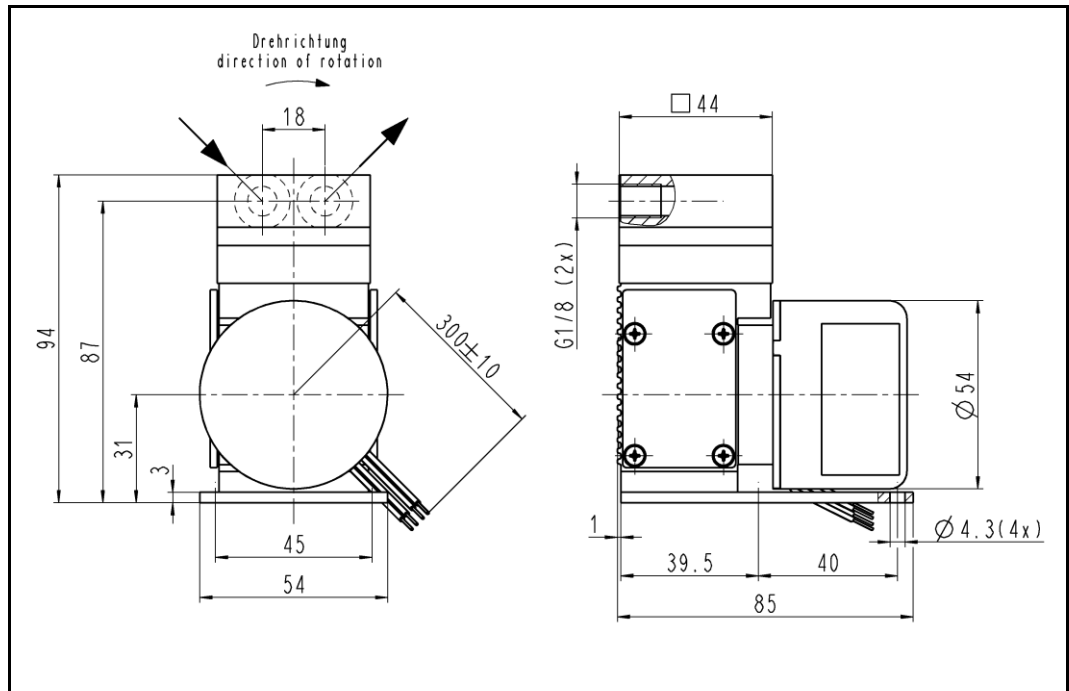
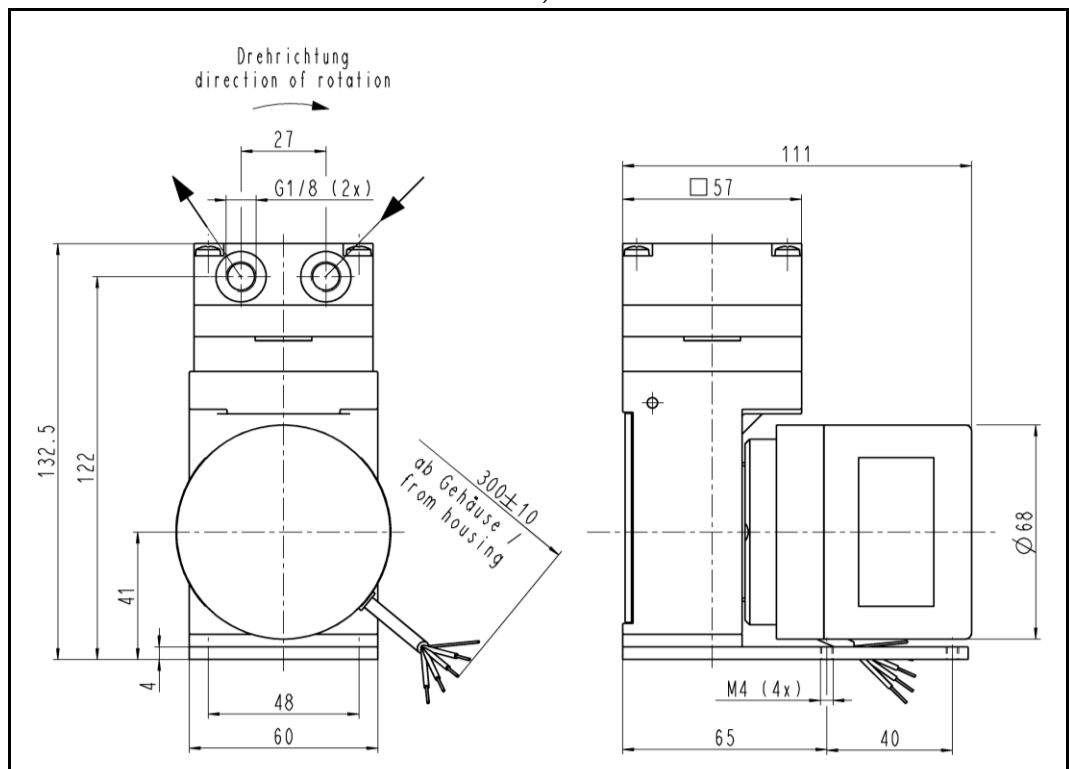
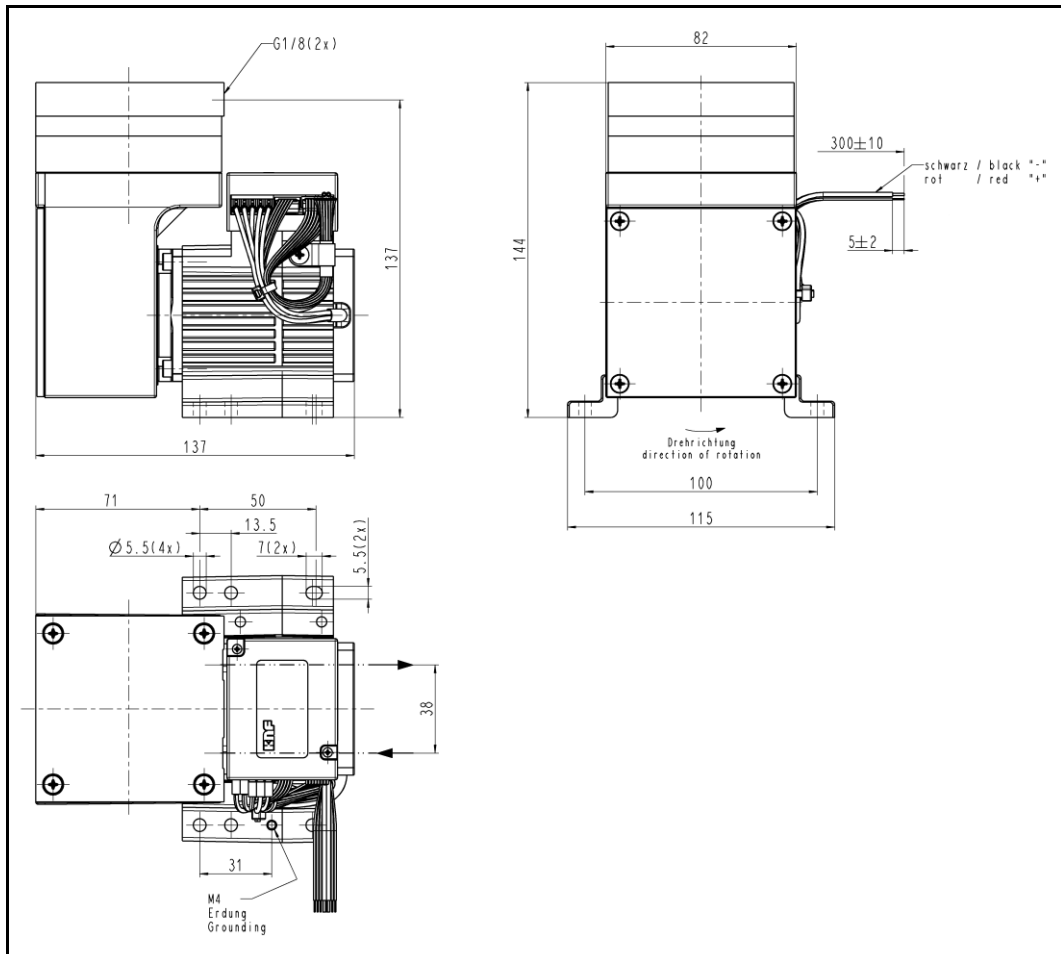

Fig. 5: Mounting dimensions pump series N 86 A_12.29 DC-B
Fig. 6: Mounting dimensions pump series N 816 AV_12.29 DC-B
Fig. 7: Mounting dimensions pump series N 838 A_12.29 DC-B
- Mounting dimensions → See fig. 5, p. 13 (pump series N 86 A_.12.29 DC-B), fig. 6, p. 13 (pump series N 816 AV.12.29 DC-B) and fig. 7, p. 14 (pump series N and N 838 A_.12.29 DC-B) for the mounting dimensions.